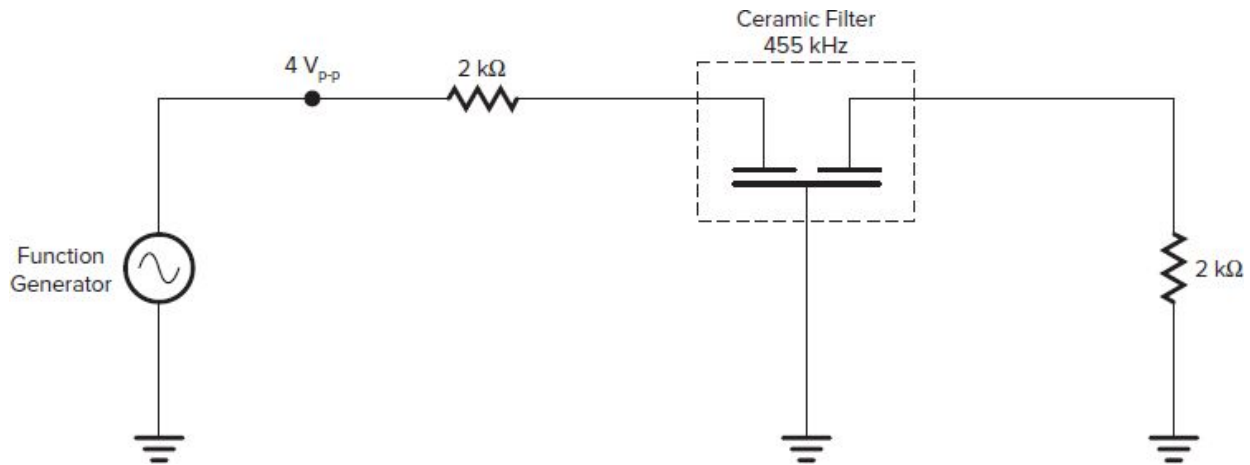

Fig. 2-1 Filter measurement circuit.
1. Build the circuit shown in Fig. 2-1.